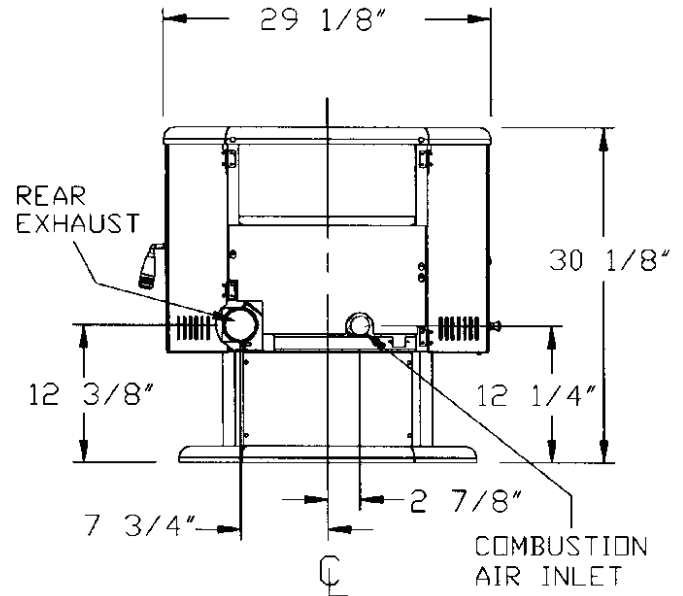
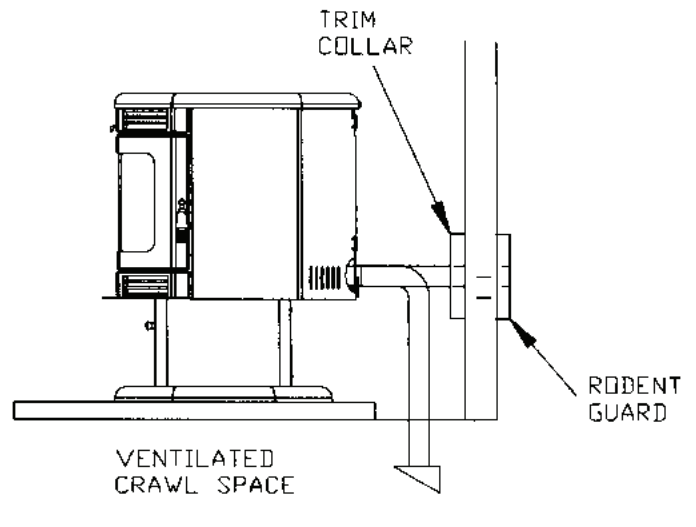

FIGURE 5
FIGURE 7
For a mobile home installation the stove must be connected to an outside source of combustion air. A 2" inside diameter metallic pipe, either flexible or rigid, may be attached to the inlet at the stove's rear (refer to figures 5 & 6). A rodent guard (minimum 1/4" wire mesh)/wind hood must be used at the terminus (refer to figure 7). All connections must be secured and airtight by either using the appropriately sized hose clamp and/or UL-181-AP foil tape.
2. Locate position of hole in wall; directly behind stove exhaust vent (refer to figure 5).